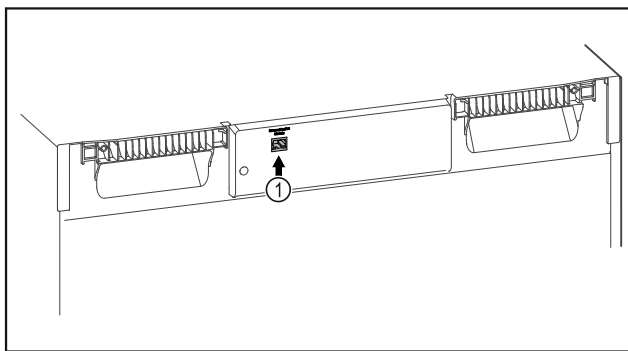

Fig. 119
- ☐ SmartModule Fig. 119 (1) is in use.